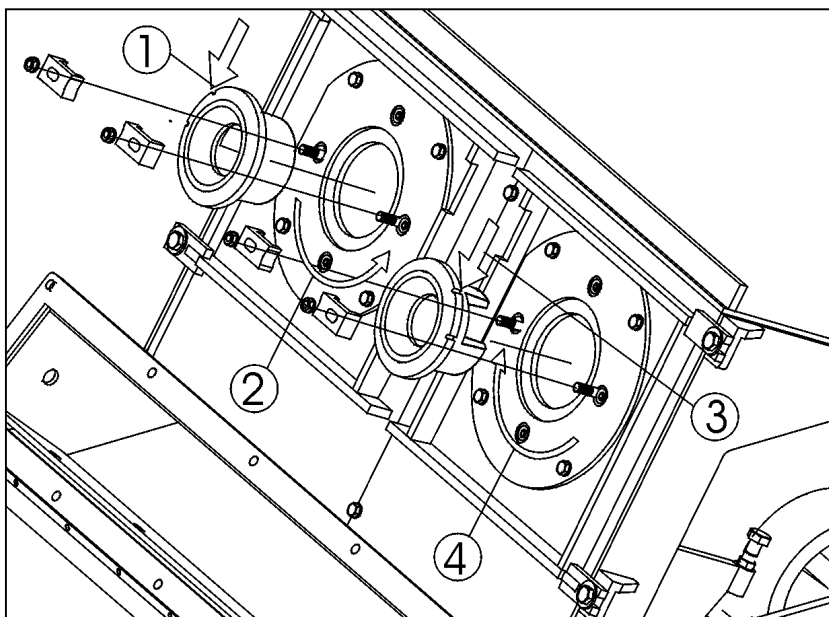

Fig. 7.2
- Set the upper window edge of the left-hand control cage to imaginary 11.30 of a dial. Set the right-hand control cage exactly in a laterally inverted way (see fig. 7.2).